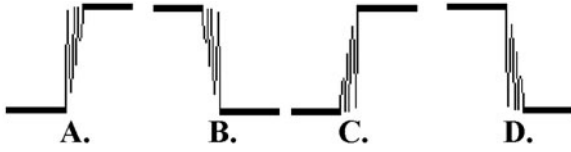

Figure L41-4
- *An unclean input has bounce* as shown in Figure L41-4. Such a bounce is too fast to be noticed on inexpensive oscilloscopes. It would be impossible to see on Soundcard Scope. But you see the results of the bounce as the 4017 counts more than one step in each push of the plunger.